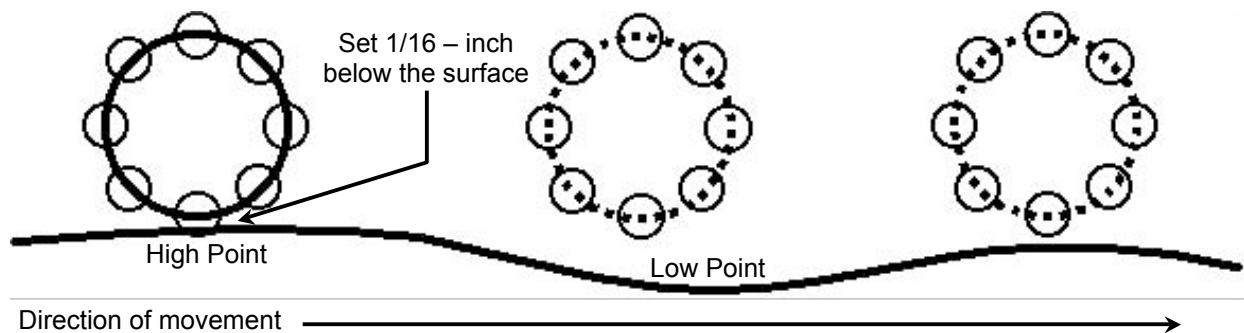

Figure 1
- G) Repeat Steps A through E until the Surface is level (See Figure 1)